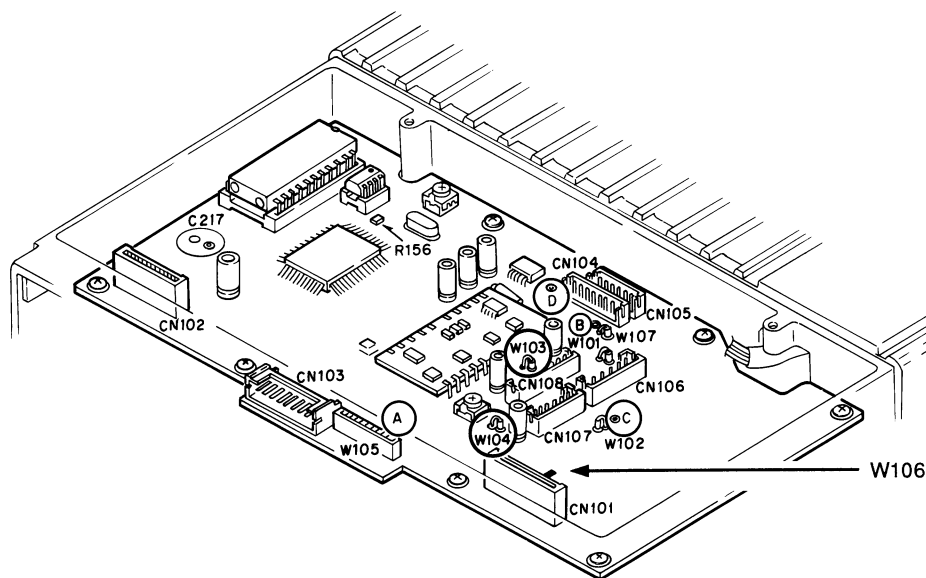

Fig. 1-5 Control unit (X57- A/4)
3. Install the KRK-2 on radio 1 using the four flat-headed screws (1). Take care not to get W105 between the frame edges.
4. Short W106 on the control unit by soldering (Fig. 1-5). If you do not short it, the KRK-2 audio output will be reduced.